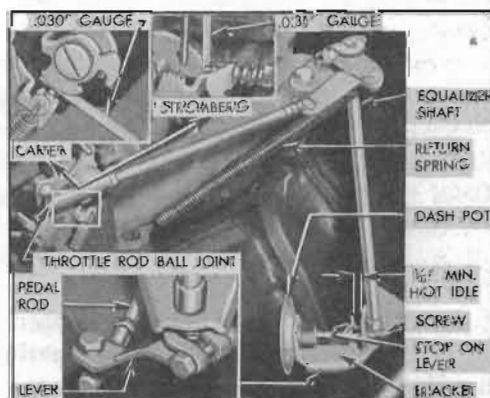

Figure 3-7—Throttle Linkage and Dash Pot Adjustment
1. With engine hot and idling at 450 RPM, check clearance between the stop on lever at lower end of equalizer shaft and the shaft lower bracket. See figure 3-7. If clearance is less than $\frac{1}{32}$ ", adjust throttle operating rod at ball joint to obtain a minimum of $\frac{1}{32}$ " clearance. Tighten lock nut.
mat, rather than having the stop on throttle lever strike hard against the boss on throttle body. Adjust *accelerator pedal rod* at ball joint, if necessary to obtain full opening of throttle valve. Tighten lock nut. See figure 3-7.
4. Hold choke valve closed, insert a .030" feeler gauge between the adjustment or stop screw and the fast idle cam, then turn adjusting screw on dash pot operating lever until it just contacts the dash pot plunger button. See figure 3-7. *This gives a starting setting which may require slight alteration to obtain proper dash pot control.*